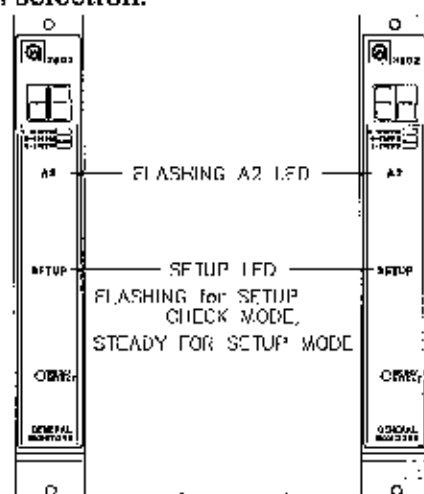

Figure 24
- After the Password and Inhibit mode, the **A2** LED on the front panel will be flashing while the Energized/De-energized option is displayed (figure 24). The display will indicate the current selection, (**En** or **dE**). Press the Mode/Select switch until the desired option is displayed. De-Energized is the factory default for this selection.